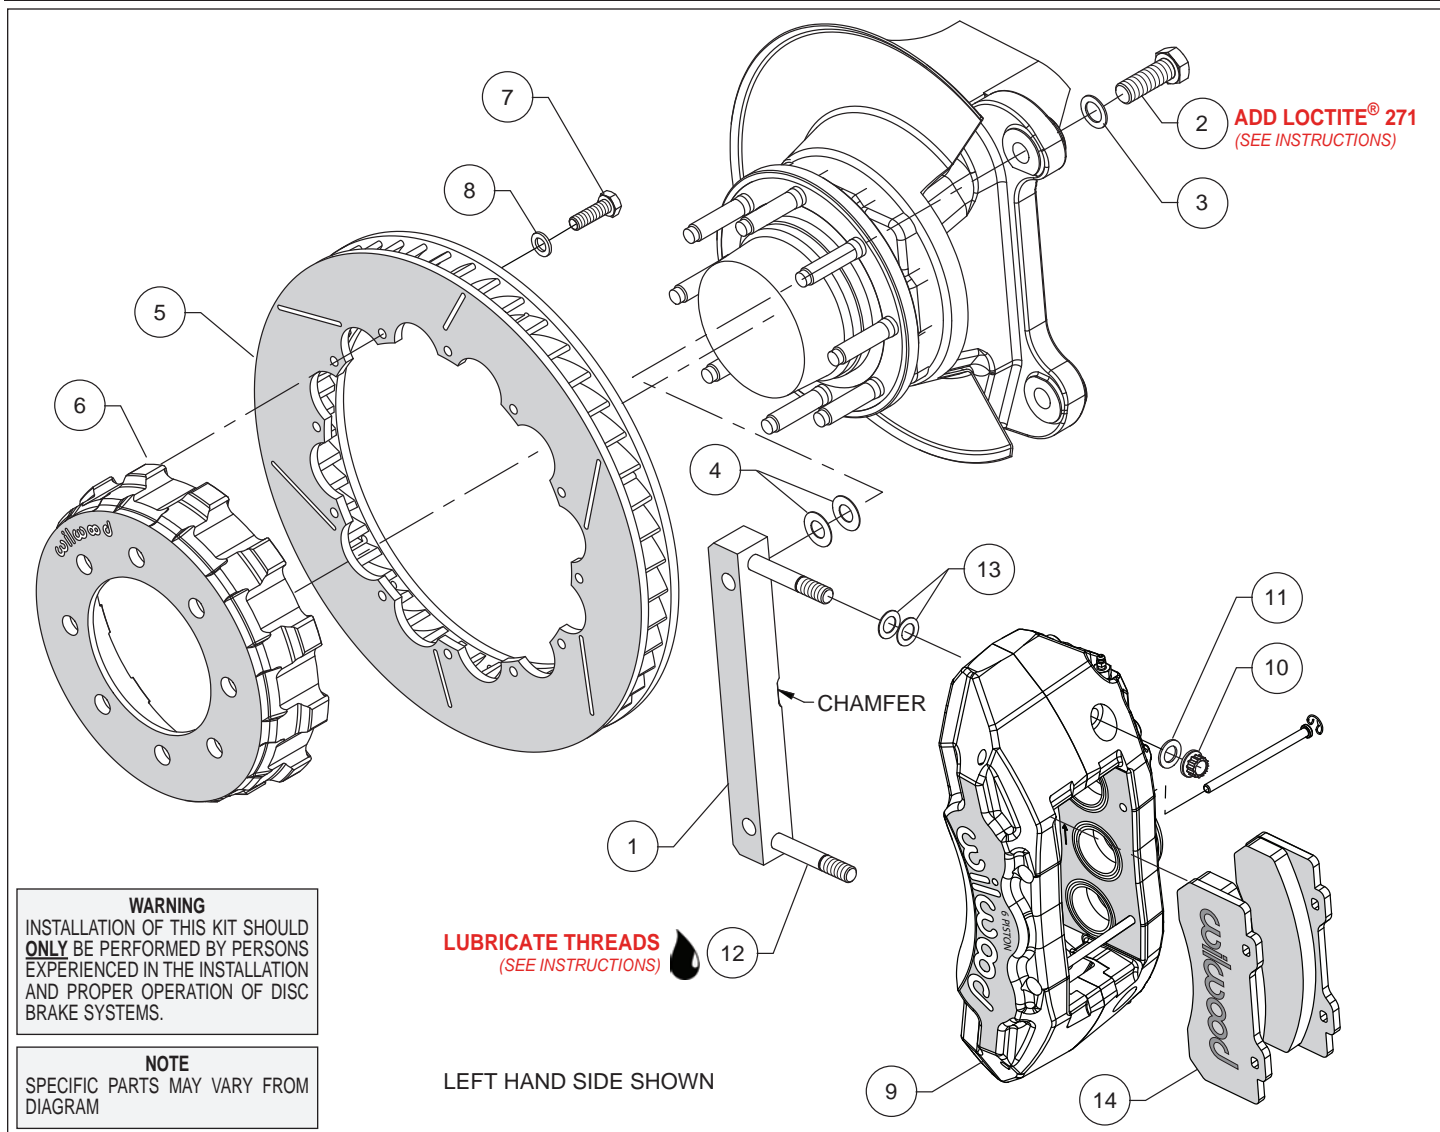
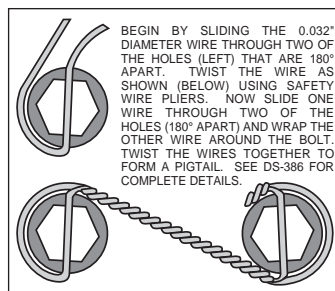

Figure 1. Typical Installation Configuration
Figure 3. Safety Wire Diagram
Assembly Instructions (numbers in parenthesis refer to the parts list and Figure 1 on the preceding pages):
- The caliper mount bracket (1) should initially be installed with clean, dry threads on the mounting bolts. Orient the bracket as shown in Figure 1 and Photo 1 with the chamfer facing inward, away from the wheel, and install using bolts (2) and washers (3). Initially place two .024 thick shims (4) on each bolt between the bracket and upright, Figure 1. Temporarily tighten the mounting bolts. **NOTE:** The bracket must fit squarely against the mount bosses on the upright. Inspect for interference from casting irregularities, machining ridges, burrs, etc. Later, after the caliper alignment has been checked, the mount bolts will be secured using red *Loctite*[®] 271.
- Orient the rotor (5) and the hat (6) as shown in Figure 1 and Photo 2. Attach rotor to hat using bolts (7) and washers (8). Using an alternating sequence, torque to 25 ft-lbs. For an added measure of security, the bolts may be safety wired using standard 0.032 inch diameter stainless steel safety wire as shown in Figure 3. Please refer to Wilwood's data sheet DS-386 (available at www.wilwood.com/Pdf/DataSheets/ds386.pdf) for complete safety wire installation instructions.
- NOTE:** This kit contains distinct right and left hand calipers that must be mounted in a specific direction, as described below. Lubricate the caliper mounting studs (12) with lightweight oil. Initially place two .032" thick shims (13) on each stud as shown in Figure 1 and Photo 3. Mount the caliper (9) onto the bracket (1) using lock nuts (10) and washers (11), Figure 1. Ensure that the caliper is mounted so that the largest pistons are at the rotor exit end of the caliper, in relation to the direction of rotor rotation. Temporarily tighten the lock nuts and view the rotor through the top opening of the caliper. The rotor should be centered in the caliper, Photo 4. If not, adjust by adding or subtracting shims (4) between the bracket and the upright. Always use the same amount of shims on each of the two mounting bolts. Once the caliper alignment is correct, remove the bracket mounting bolts (2) one at a time, apply red *Loctite*[®] 271 to the threads, and torque to 120 ft-lb.